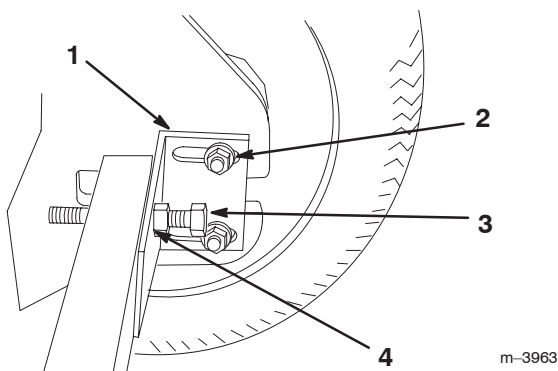

Figure 20
3. Loosen the nuts securing the axle retaining bracket (Fig. 20).
4. Loosen the nut on the chain tensioning bolt and loosen the bolt (Fig. 20).
7. Position the axle retaining bracket tight against the axle and the frame, then tighten the nut on the bolt to secure it in place (Fig. 20) and torque the nut to 30 ft-lbs (40.7 N-m).